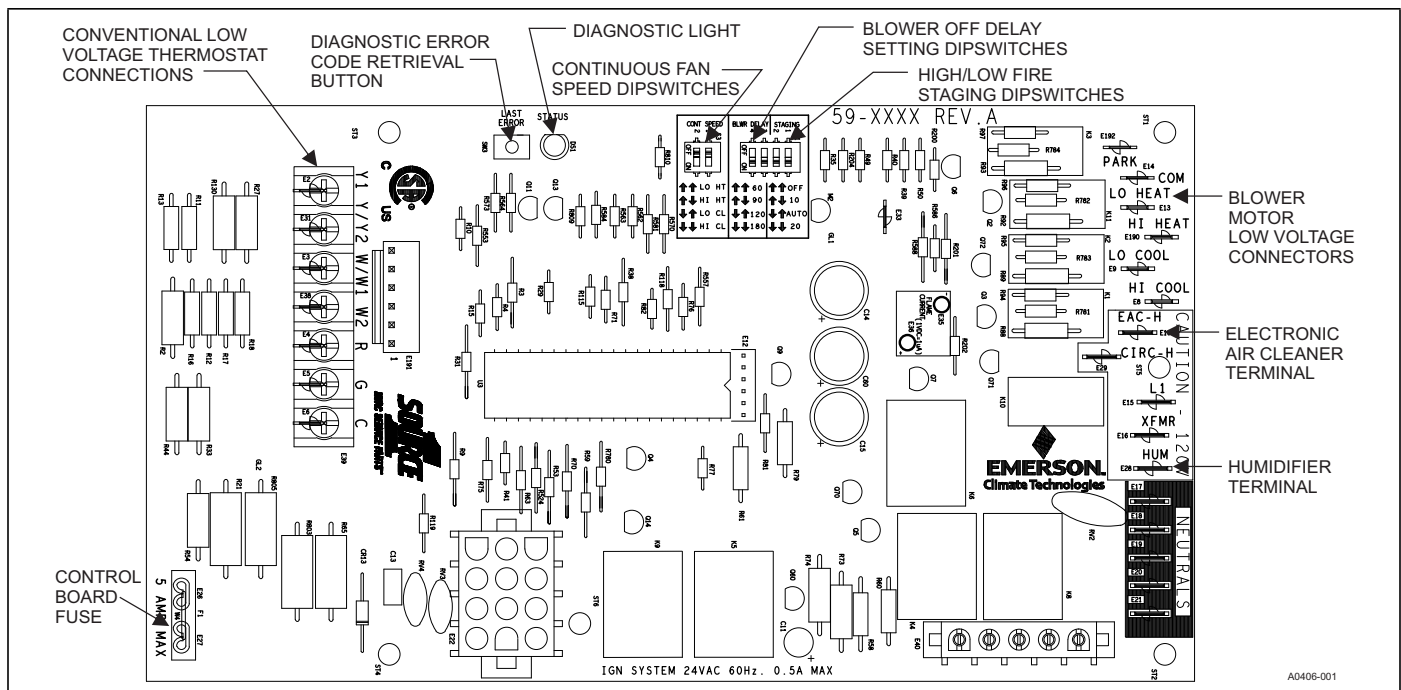

FIGURE 40: Furnace Control Board
This furnace is equipped with a time-on/time-off heating fan control. The fan on delay is fixed at 30 seconds. The fan off delay has 4 settings (60, 90, 120 and 180 seconds). The fan off delay is factory set to 120 seconds. The fan-off setting must be long enough to adequately cool the furnace, but not so long that cold air is blown into the heated space. The BLOWER OFF DELAY timing may be adjusted by positioning the dipswitches shown in Figure 40.
Refer to Figure 40 and the unit wiring diagram label to change blower speed. Place all unused motor leads on the PARK terminal. One park terminal is provided. To use same speed tap for heating and cooling, the terminals must be jumped together at the furnace control board using a field supplied jumper. This control has a continuous fan speed dipswitch. On a fan call only (G), the control will energize which ever blower tap is selected by dipswitches. This control will change other blower speeds on 24V thermostat inputs (Y1, Y/Y2, W, W2).
When the thermostat switch is set on HEAT and the fan is set on AUTO, and there is a call for heat, a circuit is completed between terminals R and W of the thermostat. When the proper amount of combustion air is being provided, the pressure switch will close, the ignition control provides a 17-second ignitor warm-up period, the gas valve then opens, the gas starts to flow, ignition occurs and the flame sensor begins its sensing function. The furnace fires on high fire for 10 seconds, then it switches to low fire unless there is a heating call present on W2. The blower motor energizes 30 seconds after the gas valve opens if a flame is detected. Normal furnace operation continues until the thermostat circuit between R and W is opened, which causes the ignition system and gas valve to de-energize and the burner flames to be extinguished. The vent motor operates for 15 seconds, and the blower motor operates for the amount of time set by the fan-off delay dip switches located on the control board. See Figure 40. The heating cycle is now complete and ready for the start of the next heating cycle.